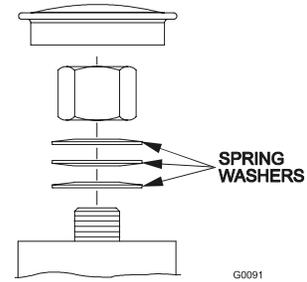

**FIGURE 15
- i) Bring the LH motion control lever into the neutral position. Adjust the LH pump control rod length by rotating the tracking adjustment knob in the appropriate direction until the wheels slightly creep in reverse. Move the motion control lever to the reverse position and while applying slight pressure to the lever allow the reverse indicator spring to bring the levers back to neutral. The wheel must stop turning or slightly creep in reverse. See Figure 15.